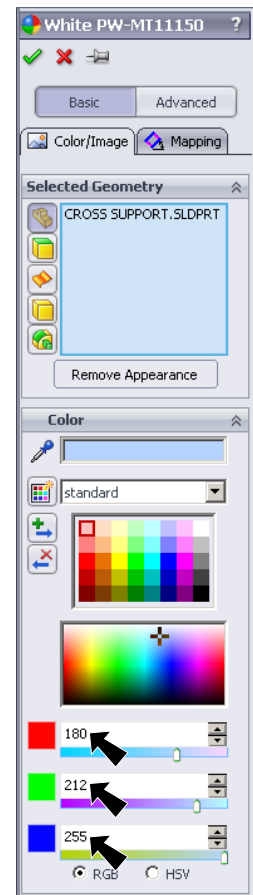

Fig. 9
Step 2. In the Appearances Property Manager, Fig. 9 under Color: